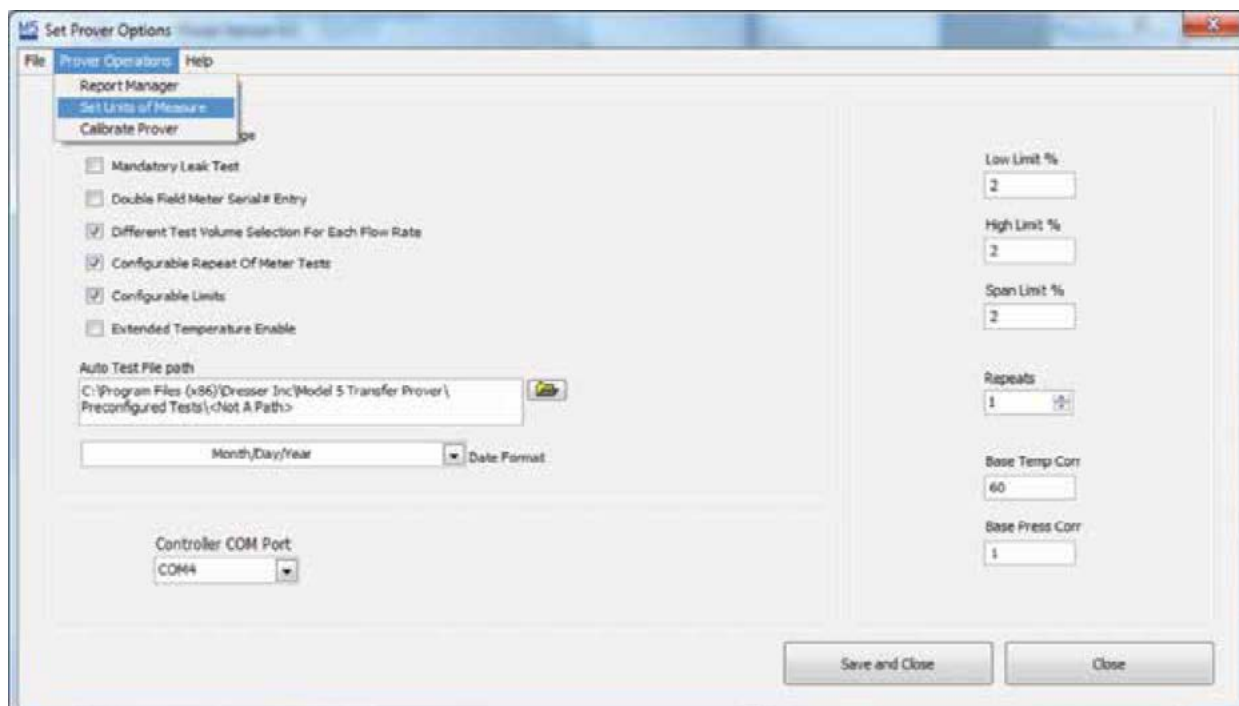

Figure 16: Set Units of Measurement Selection
4. A new window will open. Select "Prover Operations" and "Set Units of Measurement" as shown in Figure 16.